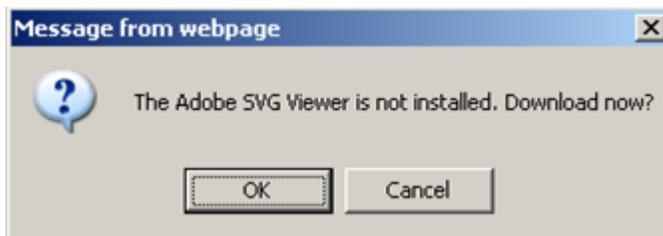

Figure 5-5: **Message from webpage** dialog box
3. If this is the first time an Ensemble production has been run on this system, the message shown in Figure 5-5 is displayed. If this message is not displayed, skip to Step 5.